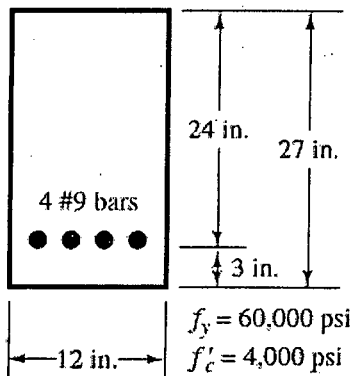

Fig: 3
5. (a) A singly reinforced rectangular section has 12 inch width and 24 inch total depth. The tension reinforcement consists of 3 No. 9 bar. Given: $f'_c = 3$ ksi, $E_c = 3200$ ksi, $f_r = 0.40$ ksi, $f_y = 60$ ksi, and $E_s = 29000$ ksi. Allowable concrete stress, $f_c = 0.45 f'_c$ and allowable steel stress, $f_s = 24$ ksi. Determine, (20)
- (b) Design a rectangular beam for 22 ft simple span if a dead load of 1 k/ft (not including the self-weight of the beam) and a live load of 2 k/ft are to be supported. Show rebar detailing in a neat sketch showing rebar size, arrangement and spacing. Given: $f'_c = 4$ ksi and $f_y = 60$ ksi. Assume, a beam section $12'' \times 24''$. (15)
6. (a) What is the purpose of providing minimum amount of flexural steel in beam? Write the ACI/BNBC code provisions for minimum reinforcement ratios. (5)
- (b) Give reasons for the minimum cover requirements in the ACI/BNBC code. What are the recommended values of 'cover' as per ACI/BNBC code? (5)
- (c) A RC beam section is limited to a width of 12 inch and total depth of 25 inch. Calculate the required reinforcement if the beam has to resist to a total factored moment of 625 k-ft including self-weight. Assume, two layer tensile reinforcement with $d = 21$ inch and $d_t = 22.5$ inch. Also, assume $d' = 2.5$ inch, if compression steel is required. Show the rebar detailing in a neat sketch. Given: $f'_c = 4$ ksi and $f_y = 60$ ksi. (25)
7. (a) Distinguish between tension controlled and compression controlled beams. (5)
- (b) For the beam section shown in Fig. 3 determine whether the failure of the beam will be initiated by crushing of concrete or yielding of steel. Given: $f'_c = 4$ ksi and $f_y = 60$ ksi. (10)